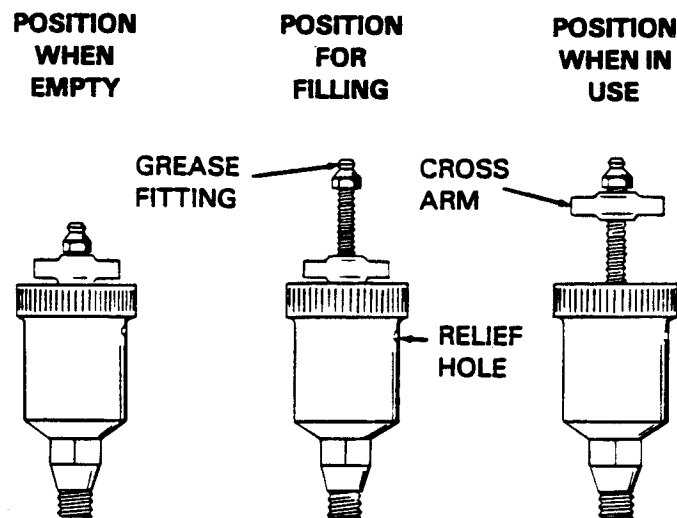

Figure 5. Automatic Lubricating Grease Cup
Before removing the seal assembly, turn the cross arm on the seal grease cup (14) clockwise until it rests against the cover (see figure 5). This will prevent the grease in the cup from escaping after the seal is removed.
Before starting the pump, fill the grease cup through the grease fitting with lithium base No.2 pressure gun grease until grease escapes from the relief hole. Turn the grease cup arm counterclockwise until it is at the top of the stem; this will release the spring to apply grease to the seal (see figure 5).